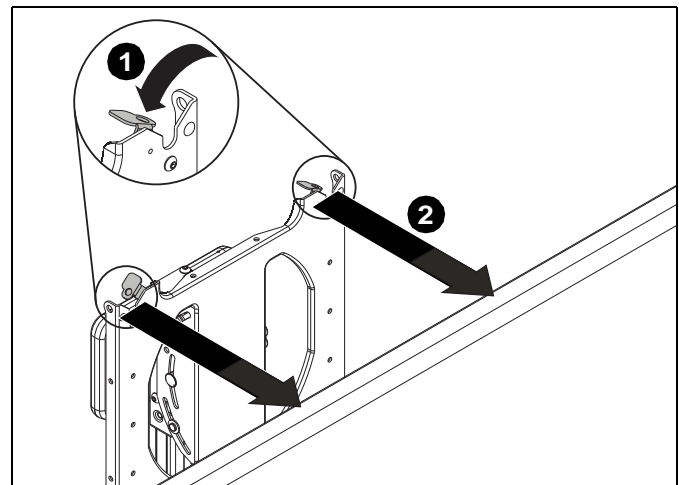

Figure 12
1. Rotate flags to OPEN position on two upper mounting holes. (See Figure 12)